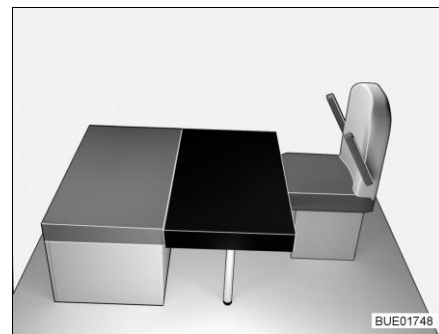

Fig. 151 After conversion
- Place the rectangular additional cushion on the table (in front of the seat cushion of the bench, see Fig. 151). When doing so, the cutout in the additional cushion is located on the frontal supporting wall.